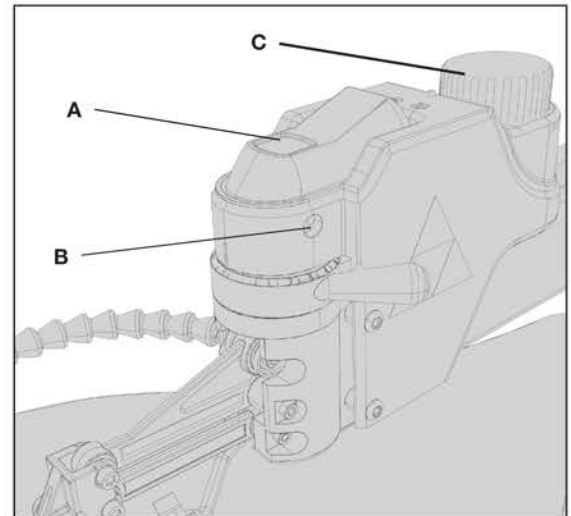

FIG. 6
To turn the scroll saw on, press the front of the switch (A) Fig. 6. The saw locks on automatically. To turn the tool off, press the back of the switch (A). A hole (B) is provided in the switch for insertion of a padlock to lock the saw off (Figure 6).
**IMPORTANT:** When the machine is not in use, the switch should be locked in the "OFF" position to prevent unauthorized use, using a padlock with a 3/16" (4.76 mm) diameter shackle through hole (B) Fig. 6.
Your scroll saw features a variable speed control, from 400 to 1,750 strokes per minute. To operate the variable speed feature, turn the speed control knob (C) Fig. 6 with the saw running.